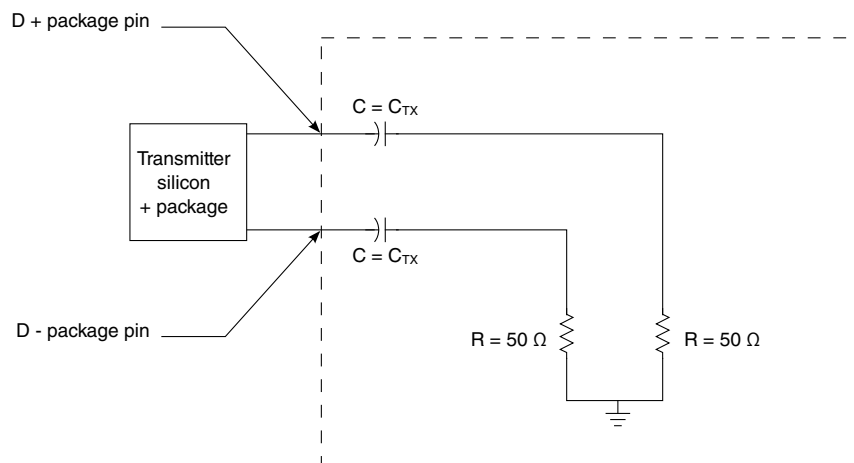

Figure 71. Test/measurement load
| 1. Specified at the measurement point into a timing and voltage test load as shown in Figure 71 and measured over any 250 consecutive transmitter UIs. | | | | | | |
1. Specified at the measurement point and measured over any 250 consecutive UIs. The test load in Figure 71 must be used as the receiver device when taking measurements. If the clocks to the receiver and transmitter are not derived from the same reference clock, the transmitter UI recovered from 3500 consecutive UI must be used as a reference for the eye diagram.